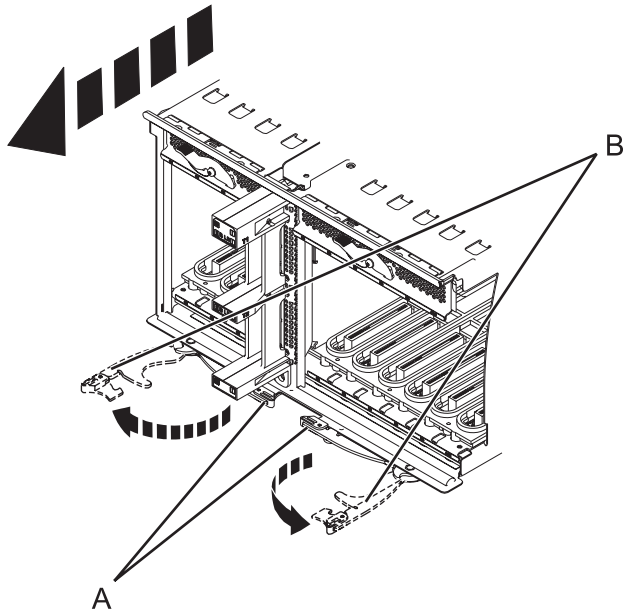

Figure 68. Removing the I/O system board
12. Squeeze the release latches (**A**) and pull the levers (**B**) out away from the system, as shown in Figure 68.